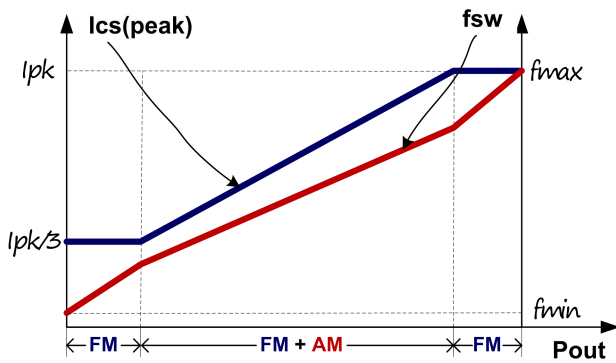

Fig.4
To meet the tight requirement of averaged system efficiency and no load power consumption, a hybrid of frequency modulation (FM) and amplitude modulation (AM) is adopted in DP3773E which is shown in the Fig 4.